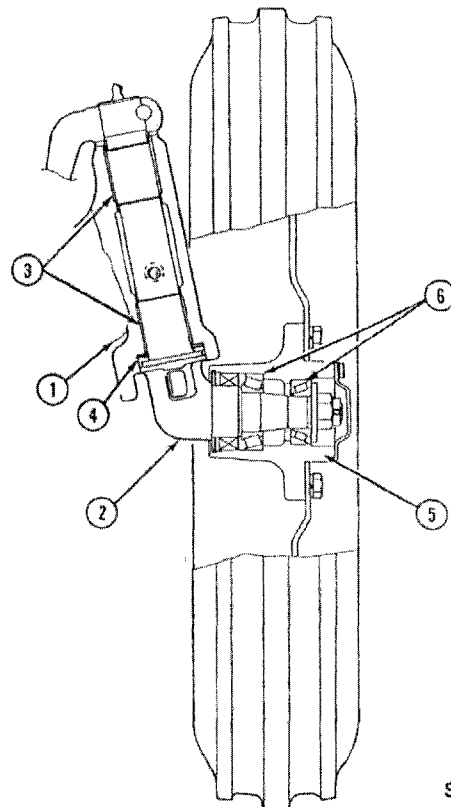

Figure 4
The outer ends of the axle sections, Figure 4, accept the front wheel spindles (2). The spindles are located by bushings (3) in the outer axle sections and a thrust bearing (4) at the lower end of the axle section supports the vertical load.
The wheel hub, Figure 4, is supported on the wheel spindle by two opposed taper roller bearings. A nut on the spindle is used to retain the outer cone and roller assembly and provide a means of adjustment for the bearing pre-load.